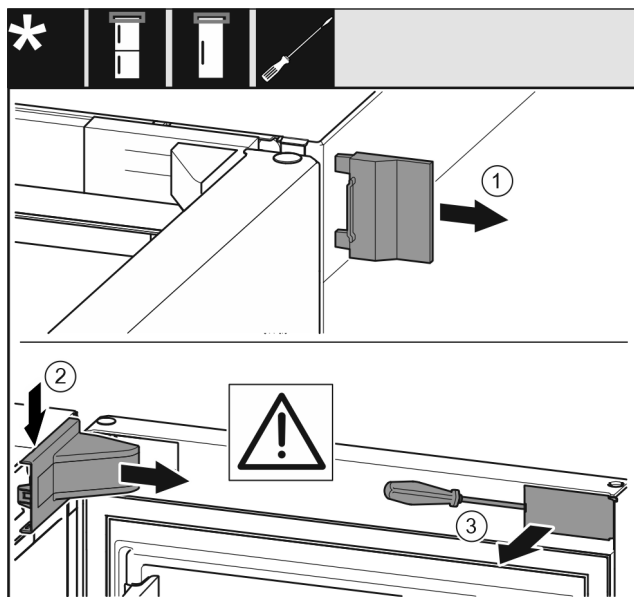

Fig. 10
► Remove the outer cover Fig. 10 (1).
► Disengage and remove the swap bearing block cover Fig. 10 (2).
► Use a slotted screwdriver to unlatch the trim Fig. 10 (3) and swing it to the side.